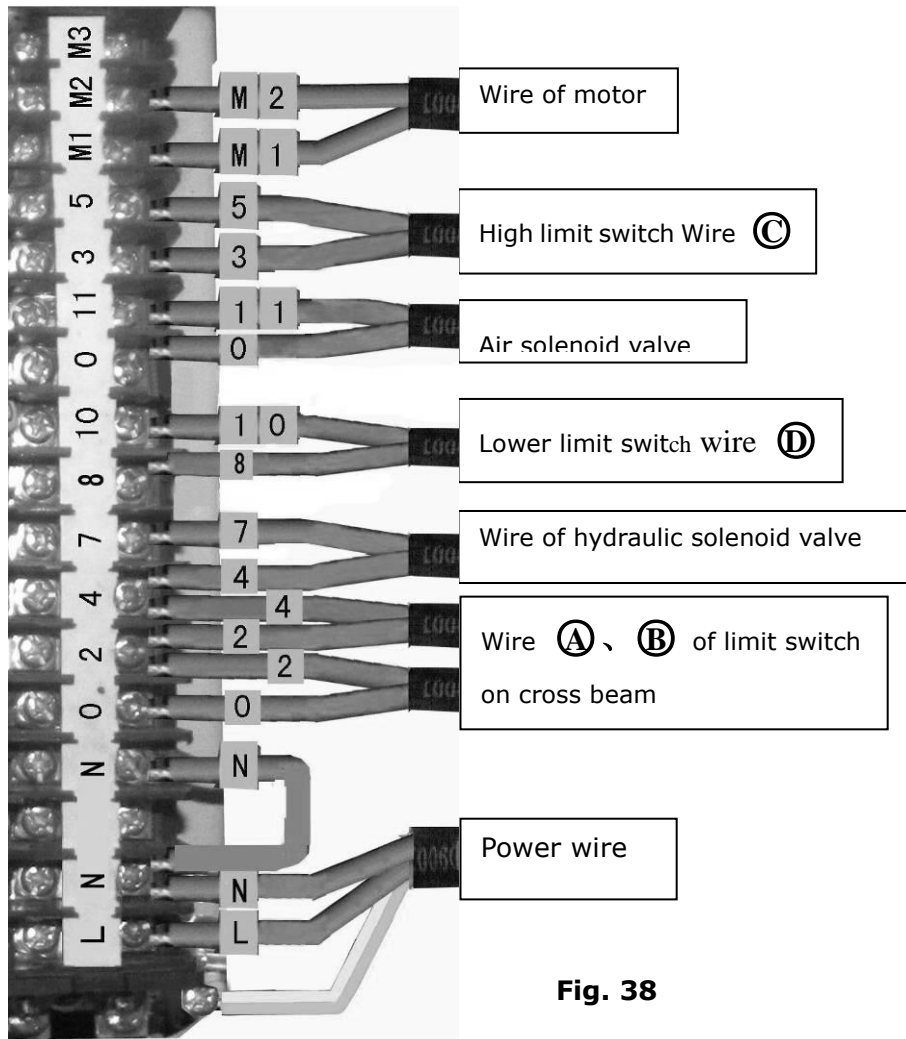

Fig. 38
7.1 Wire Connection diagram in the control box (See Fig. 38).